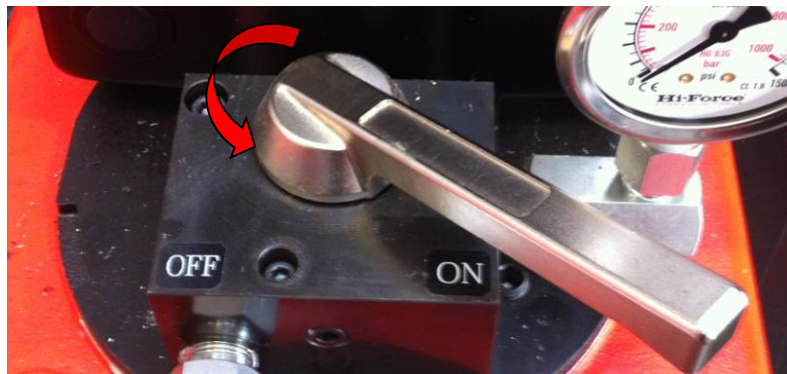

Fig 6.5 – Opening release valve lever.
3. Turn manual valve handle to the right-hand side position (45° max). Press 'ON' button to retract the cylinder (Flow to port B. Port A returns flow to the reservoir). See Fig 6.5.